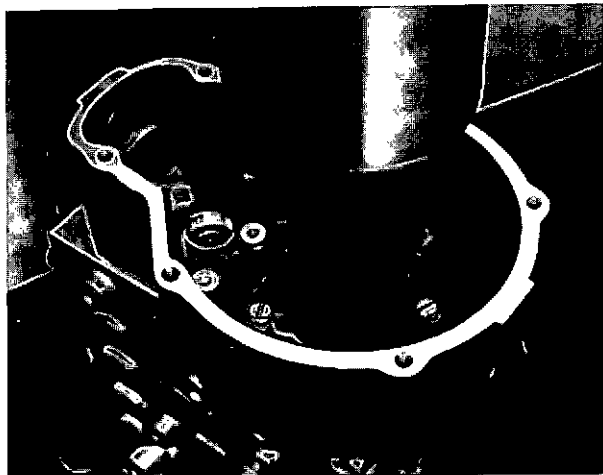

Fig. 19 Re-positioning outer race (second operation).
- (b) Place the adjusting plate on the outer race, fit the joint washer and governor housing and lightly tighten the securing screws. Then press the assembly fully home (fig. 19) and fully tighten the securing screws.